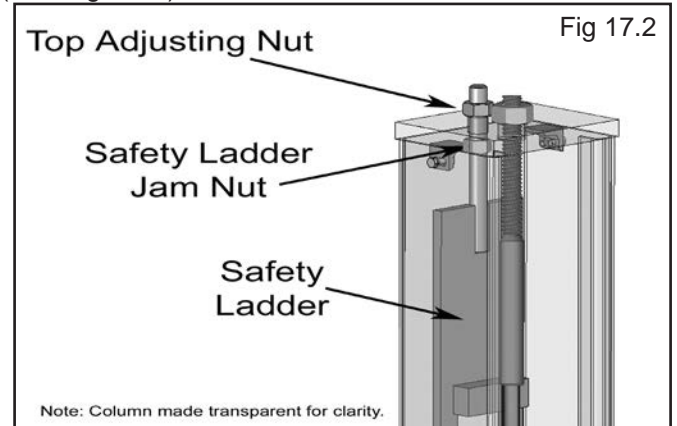

Fig 17.2
10. To complete the leveling procedures, lock each safety ladder jam nut tightly against bottom of column top plate. (See Fig. 17.2)